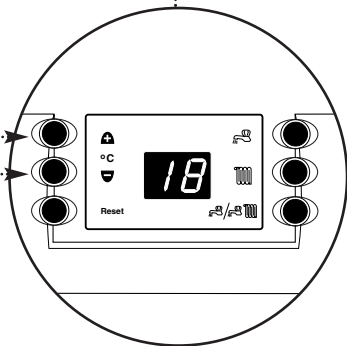
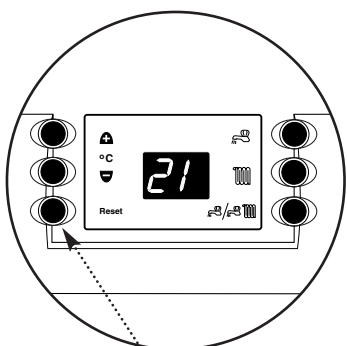

Fig. 35
Fig. 37
a) While On or OF is shown on the display i.e. no CH or DHW demand ongoing. Depress the “+” and “-” Temperature Control Buttons at the same time for 5 seconds. The display will show “18” (Fig. 35) where the “1” indicates that the installer parameter for range rating has been accessed and the “8” indicates that the boiler is presently set for a maximum Central Heating output of 80,000 Btu/hr.
3. **The boiler is factory set with the pre-heat feature on.** If it is required to disable this feature then depress the “+” and “-” Temperature Control Buttons at the same time for 5 seconds. The display will show “18” or “10” (Fig. 35 or 36). Press the Summer/Winter Mode Button marked (☀/❄) and the display will show “21” (Fig. 37). The “2” indicates that the installer parameter for pre-heat has been selected. The “1” indicates that the pre-heat is switched on.